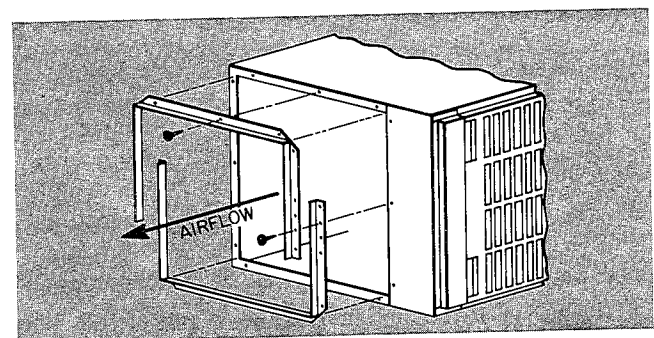

Fig. 9 — Accessory Duct Flange Installation
- a. Install accessory duct flange kit as shown in Fig. 9.
Accessory filter retainer and duct flange kits are available. See Fig. 9 and 10 for typical installations.